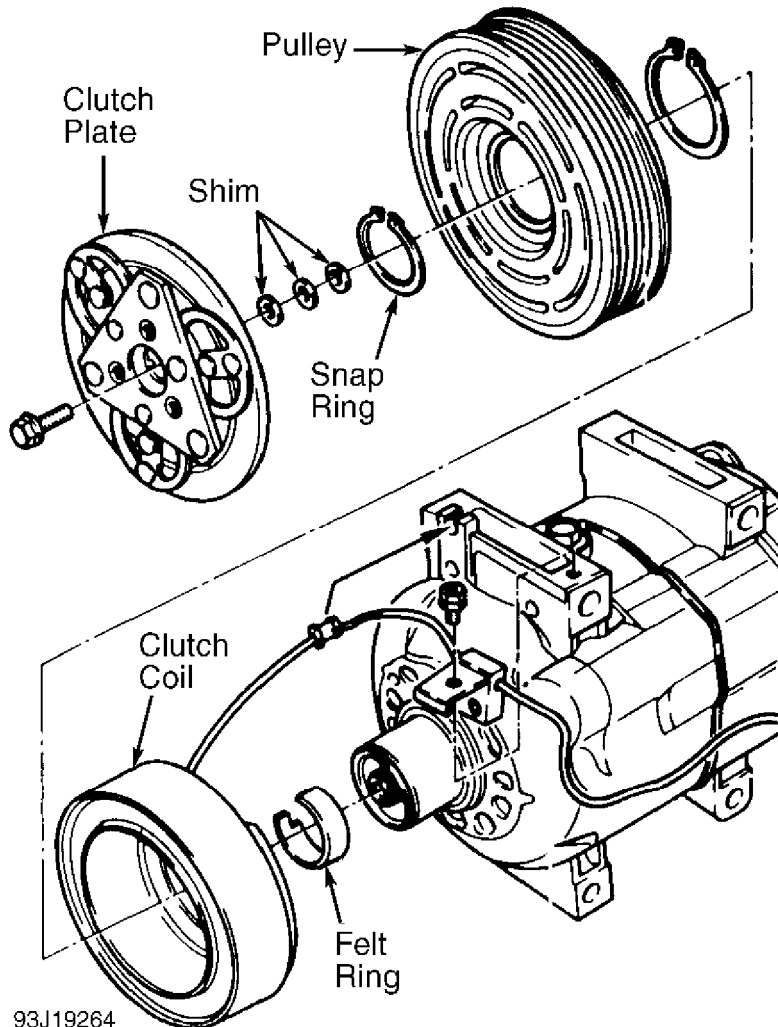

Fig. 20: Exploded View Of Compressor (Zexel 6-Cylinder)
1) Using Spanner Wrench (44-4), hold clutch hub stationary and remove shaft bolt. Remove clutch plate and shim(s) using Puller (VAG 1719) and Spanner Wrench (3212). See Fig. 20. Remove snap ring.